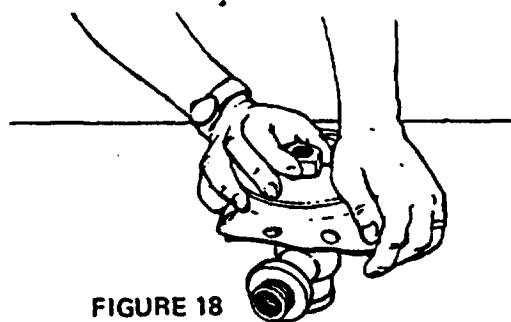

FIGURE 18
- b. Rest assembly on top of seat (1). Compress relief valve spring (9) by pressing down on lower diaphragm plate (12).
- c. Partially remove clamp bolt nut, and gradually release spring. Caution! If lower diaphragm plate does not rest against nut, clamp bolt gasket (8) is adhering to upper diaphragm plate (10) and preventing spring release. Tap top plate to release spring. Compress spring again, remove nut completely, and release spring (Fig. 18).
- d. Remove the lower diaphragm plate (12), diaphragm (11), upper diaphragm plate (10) and spring (9).